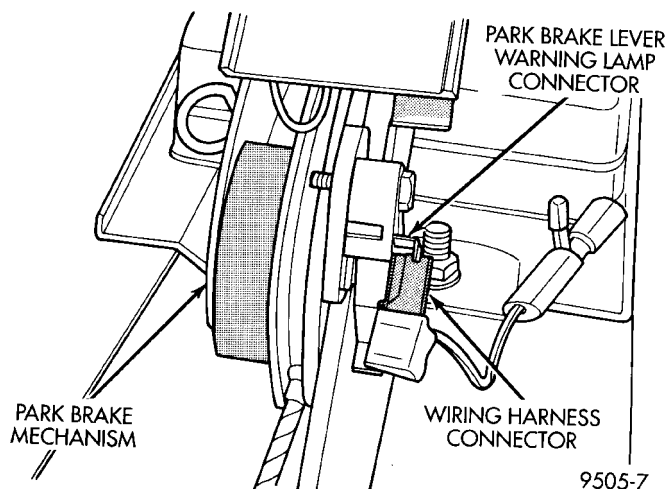

Fig. 130 Brake Warning Lamp Connection To Park Brake Lever
- (8) Remove wiring harness electrical connector for brake warning light ground from the park brake lever (Fig. 130).
(5) Connect electrical connector for brake warning lamp onto terminal on park brake lever assembly (Fig. 130).